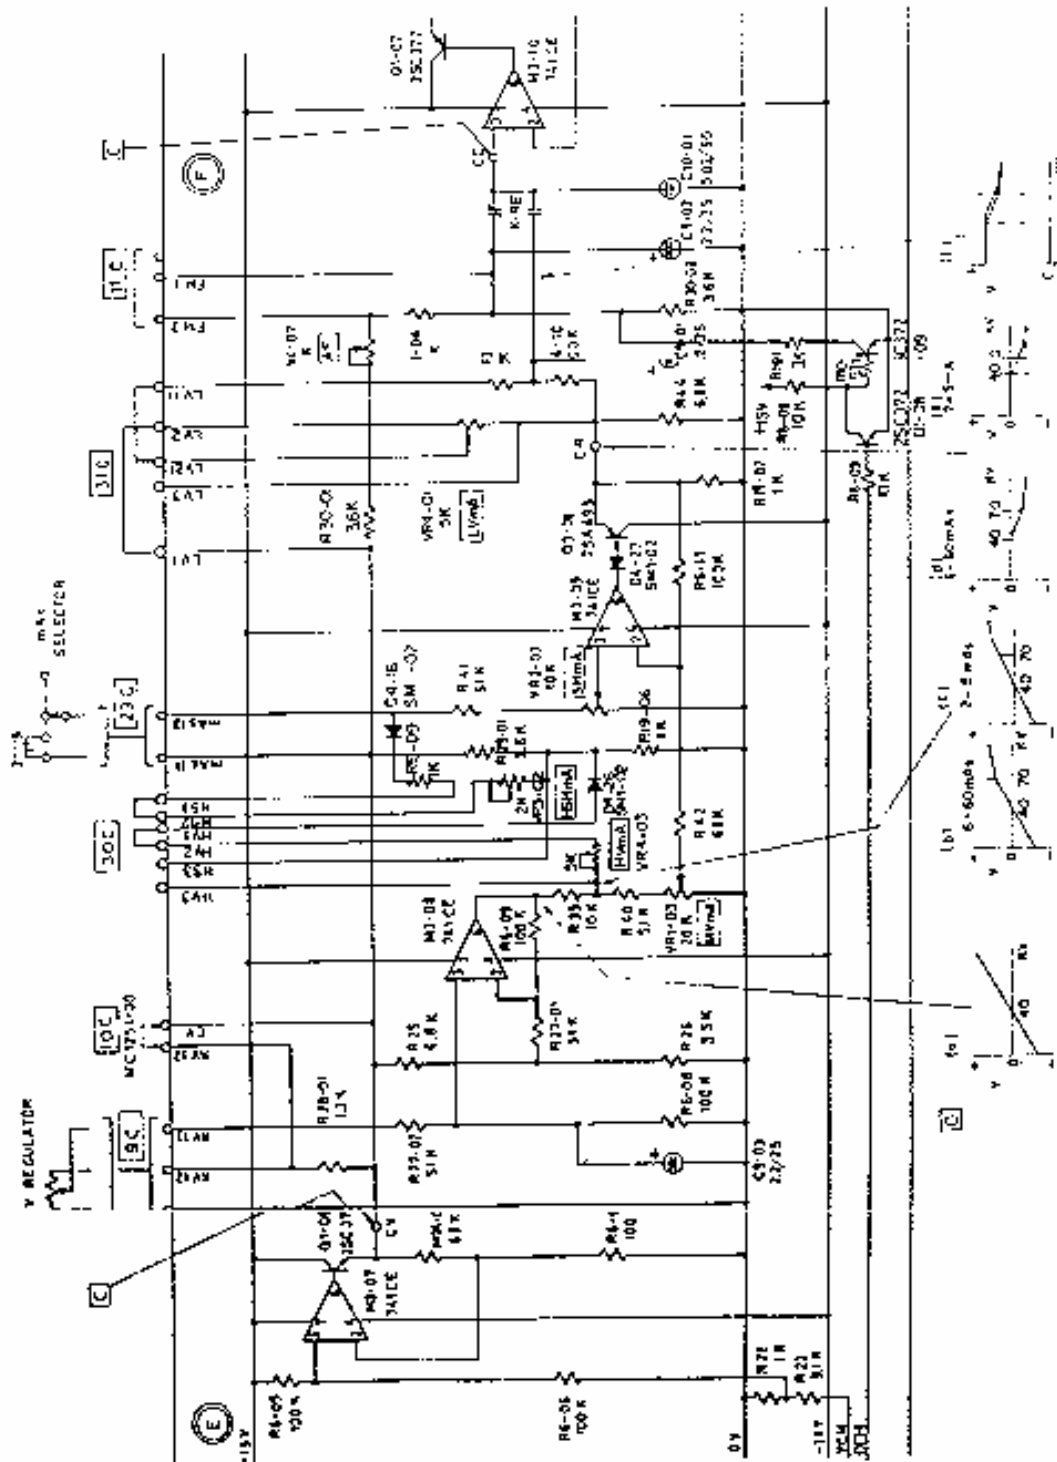

Fig. 3-5-7
- (1) Figure 3-5-7 is the connection diagram of this circuit.